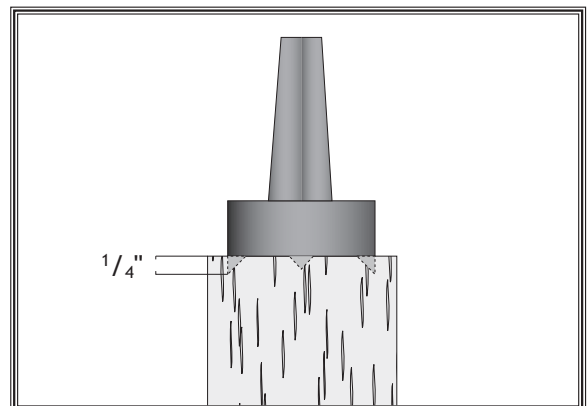

Figure 32. Spur center properly embedded in workpiece.
5. Drive spur center into center mark with wood mallet to embed it at least $\frac{1}{4}$ " into workpiece, as shown in **Figure 32**.